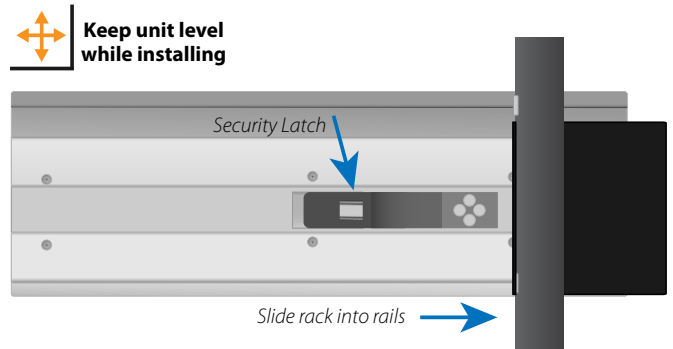

Figure 2.2.1a
4. Once aligned, evenly slide the unit rails into the rack rails. Do not release the unit until it has been inserted all the way or till an audible click is heard. The click indicates that the Jupiter unit has been inserted past the safety latches as illustrated in **Figure 2.2.1a**.